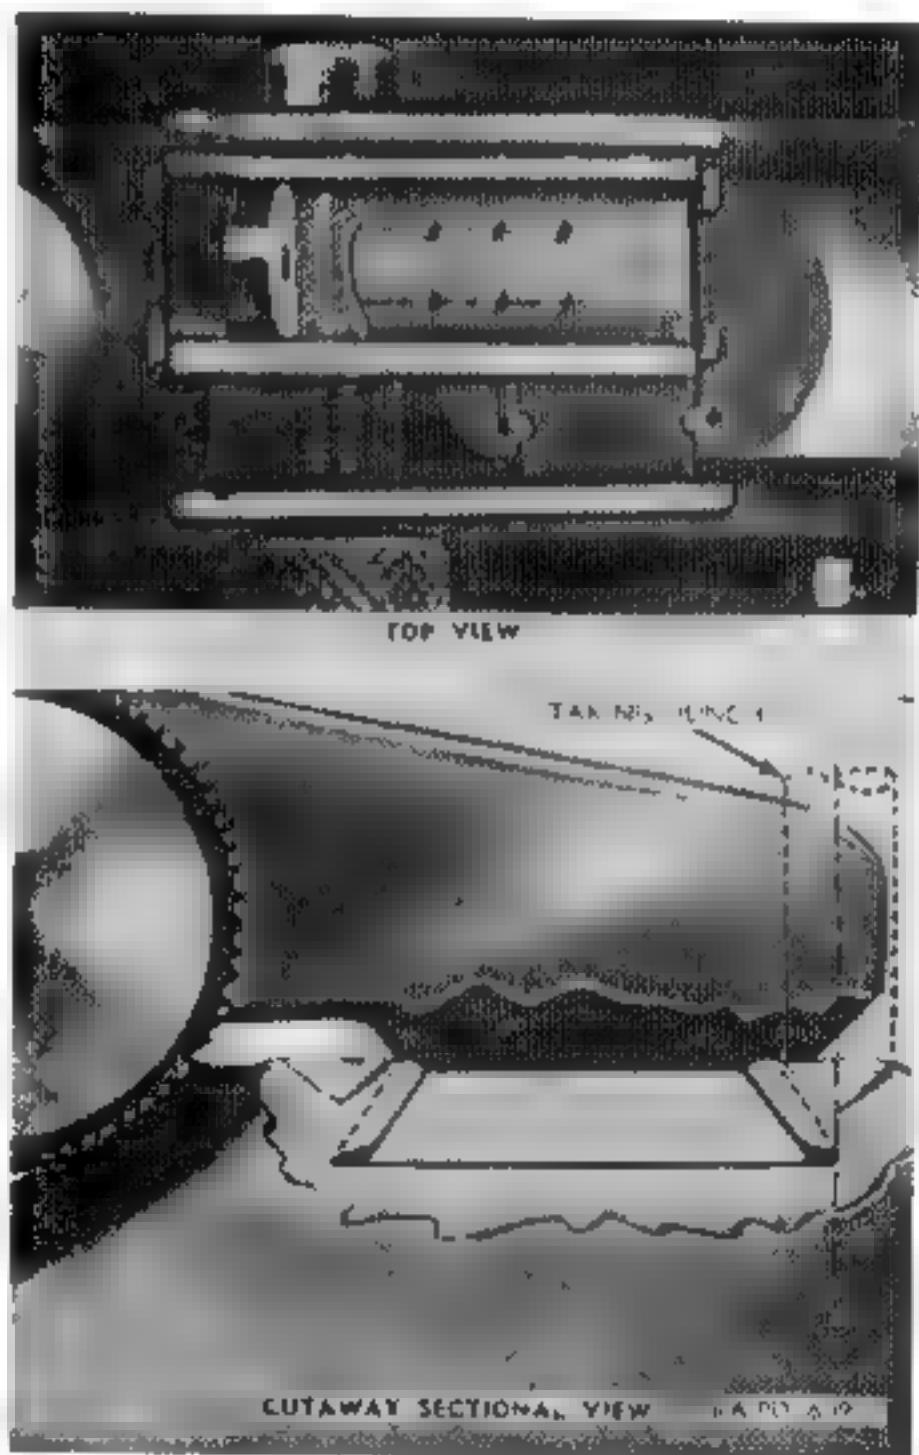

Figure 73. Rear sight showing staking.
(1) If reading is below 18 inch-pounds indent the area in front of the dovetail slot. This can first be done by using punch 7312234 (Fig. 73) and rapping punch with a hammer. Undertake this operation with extreme caution. A blow only hard enough to cause a flow of metal into the dovetail slot is necessary.
Note. The staking operation is extremely critical and success of this operation will depend largely upon the skill and judgment of the operator (Fig. 73). Bear in mind that the sharp upper edges of the dovetail slot on the receiver are easily chipped or cracked, and such damage will ultimately result in an unserviceable weapon. Many problems will arise which will have to be solved by the individual mechanic; a few of these problems and their remedies are listed in (1) and (2) below.
(1) Indents on sight base dovetail may be horizontally misaligned with references to holes in sight base. If the indents are slightly out of horizontal alignment they may be corrected by enlarging the indents very slightly with a small three-square file.